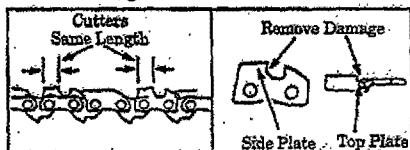

Figure 31
- c.) File from inside toward outside of cutter, straight across on forward stroke in one direction only. Use 2 or 3 strokes per cutting edge. Figure 31.
- d.) Keep all cutters the same length. Figure 31.
- e.) File enough to remove any damage to the cutting edges (side plate and top plate) of the cutter. Figure 31.